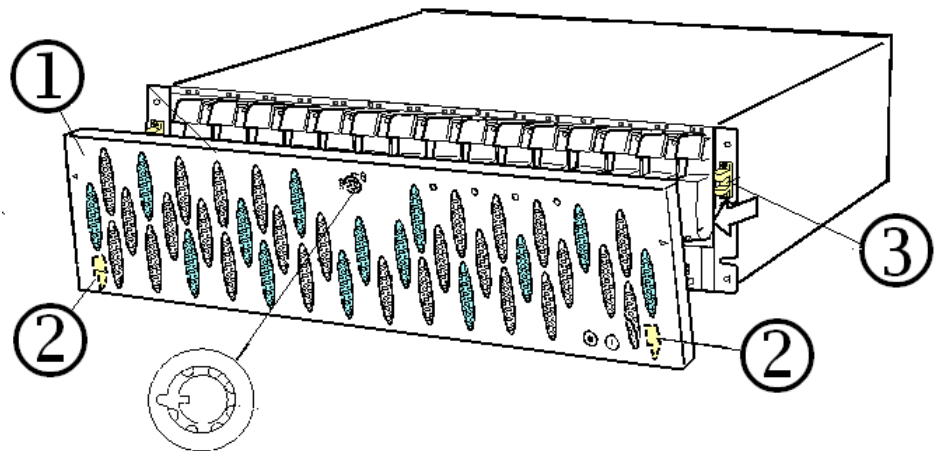

Figure 5-26: Removing the Front Bezel
3. Disengage the two hooks of the front bezel from the slots on the array chassis by shifting the bezel to the left and remove the bezel. See Figure 5-26. Also see the illustrations in Chapter 4 for details.